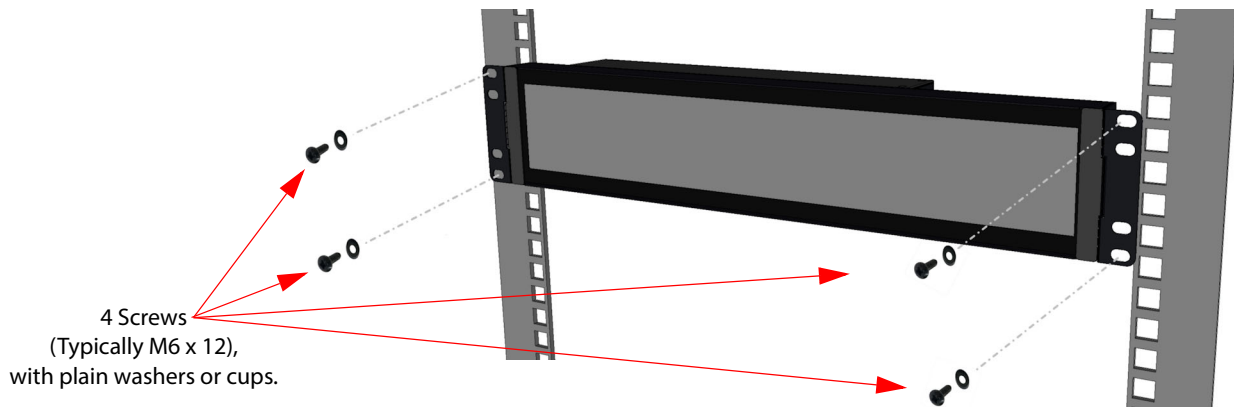

Fig. 2-2: ATP-2000 Rack Mounting
- 4 Secure the ATP-2000 unit in the rack with four M6 screws and washers. Fasten it to captive nuts of the rack frame mounting strip. See Figure 2-2.